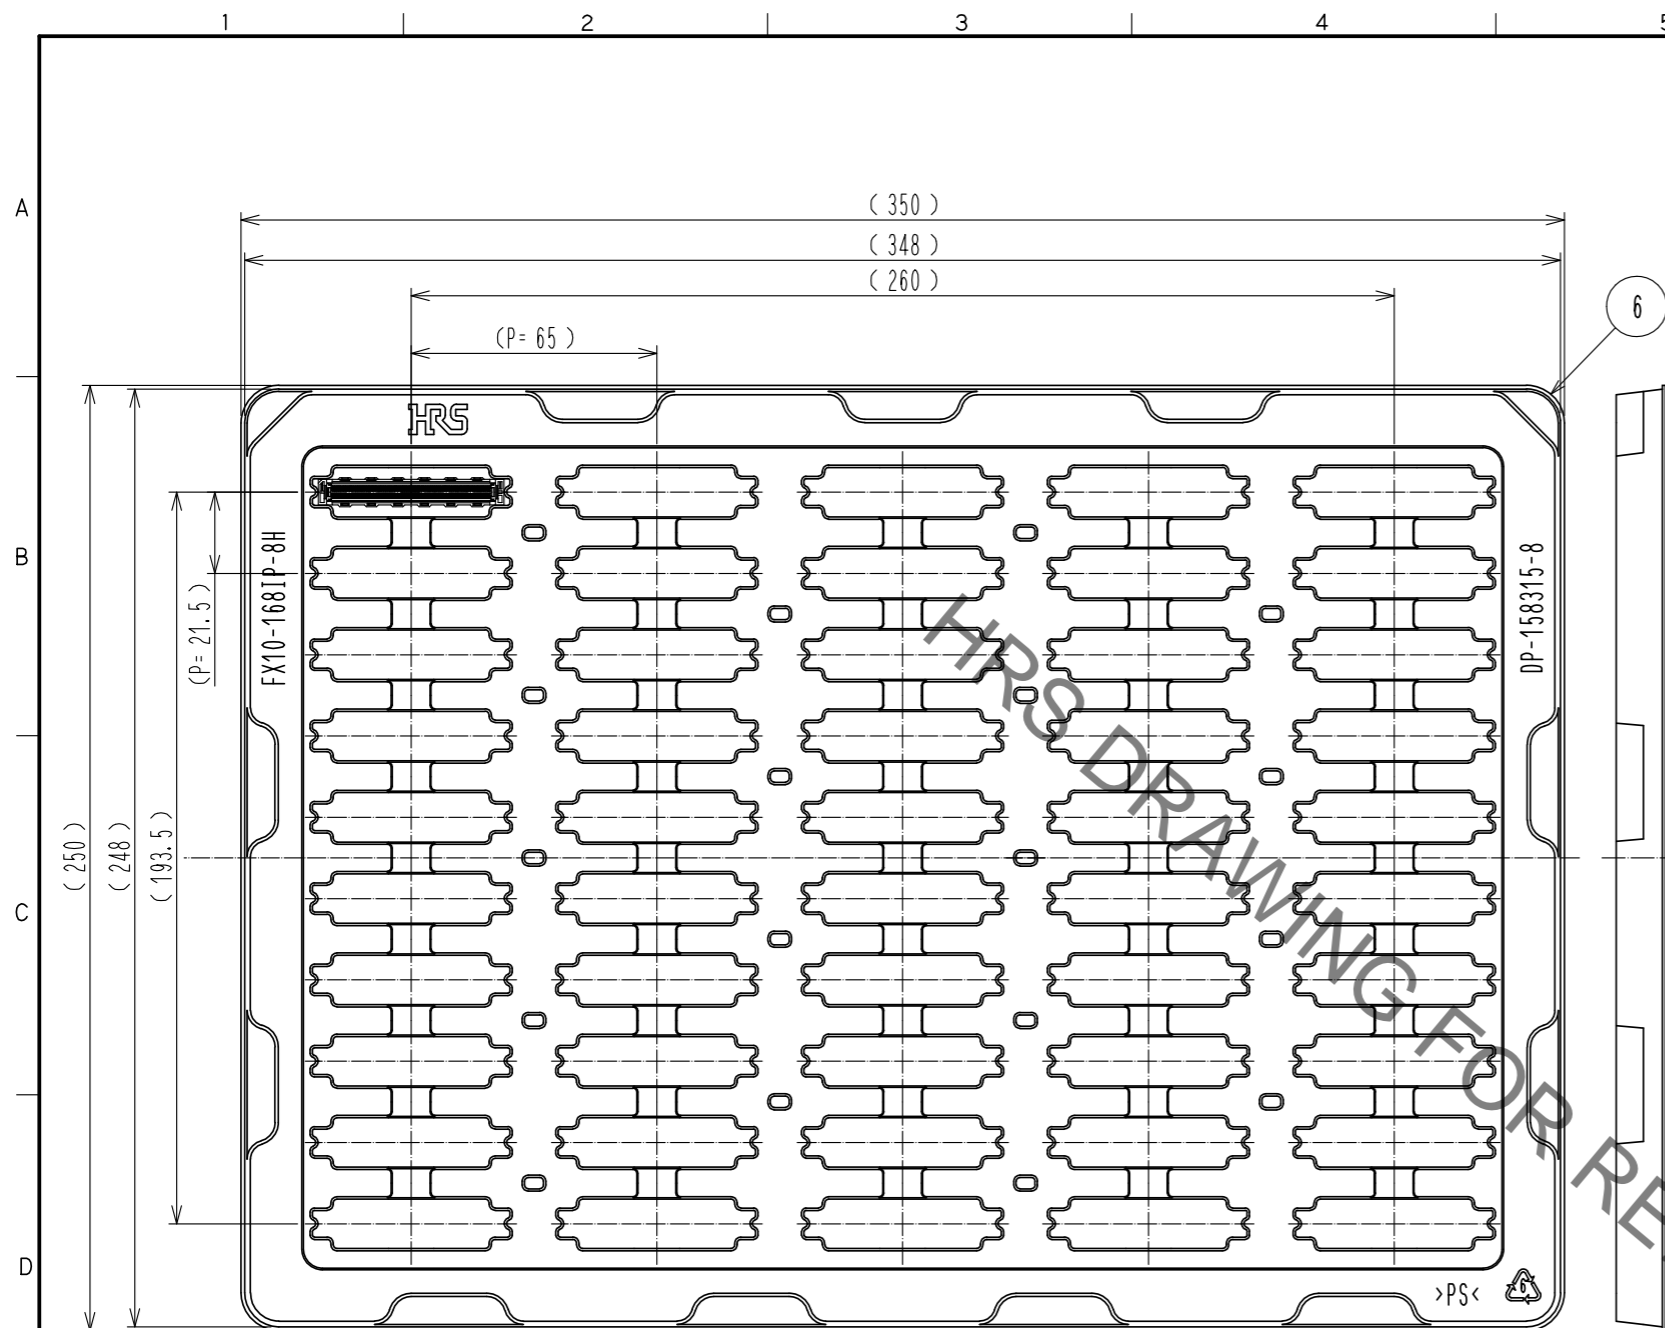

Fig.3 Drawing for packing (1:2) 4
- 6 50pcs of this product are packed in soft tray. See Fig.3 for details.